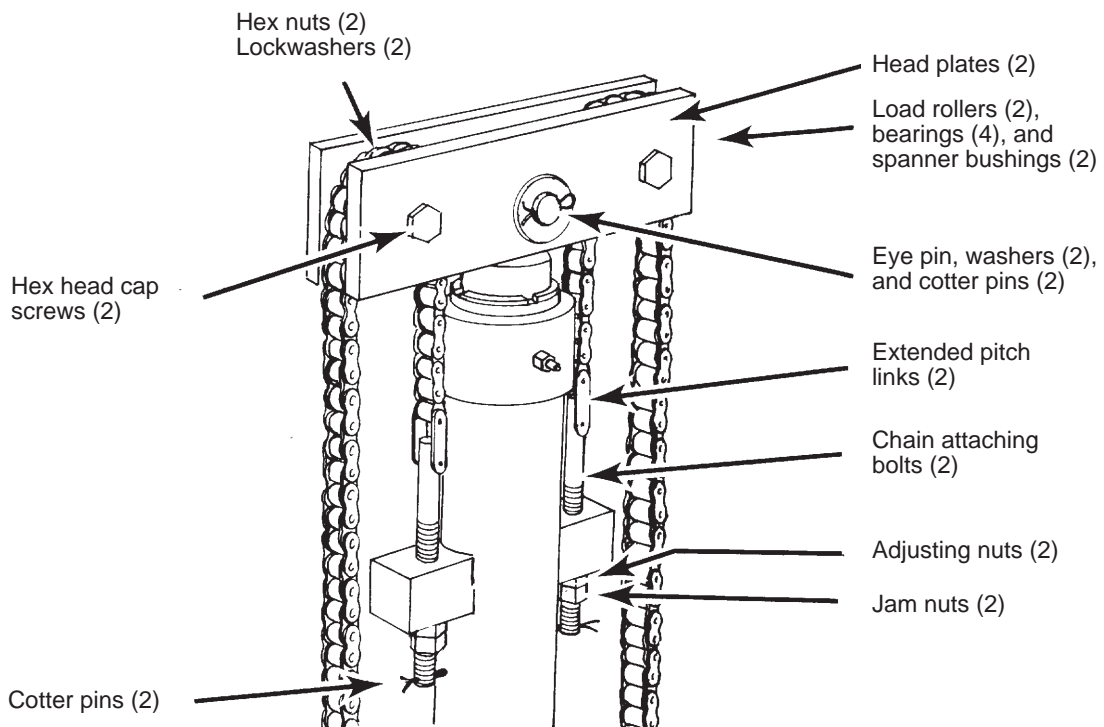

Fig. 1-22 – Equalizing Head Plate Assembly
1. The lifting chains pass over the equalizing head plate. This head plate is designed to maintain equal pressure on the lifting chains. If the head plate becomes tilted, or if the chains on one side become slack when the lift platform is lowered, you should adjust the lifting chains. (This will be visible from the rear of the unit as it is operating.) We have shown the head plate assembly in Fig. 1-22.
1. Both of the lifting chains pass over the equalizing head plate. During lifting, this head plate is designed to maintain equal upward lifting pressure on the two chains. We have shown the head plate assembly in Fig. 1-22.
3. Remove the equalizing head plate assembly from the top of the ram. See Fig. 1-22. Undo the hex head cap screws on either side of the assembly and disconnect the lifting chains. In the center of the assembly, remove one of the cotter pins and pull out the eye pin. Lift the head plate assembly off of the end of the ram.